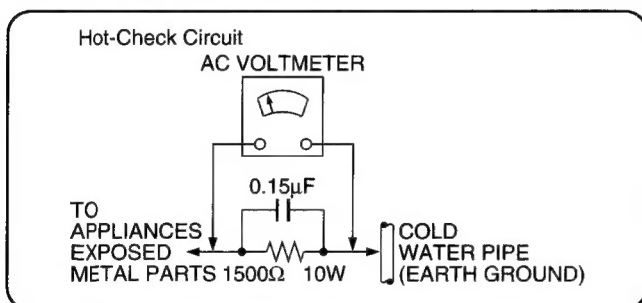

Figure 1
LEAKAGE CURRENT HOT CHECK (See Figure 1.)
2. Connect a $1.5\text{k}\Omega$, 10 W resistor, in parallel with a $0.15\mu\text{F}$ capacitor, between each exposed metallic part on the set and a good earth ground such as a water pipe, as shown in Figure 1.